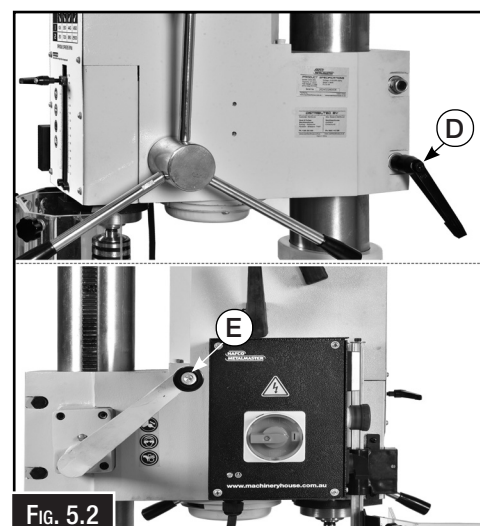

Fig. 5.2
1. Loosen the head lock handle. (D in Fig. 5.2)
2. Adjust head height by rotating height adjustment crank. (E in Fig. 5.2)